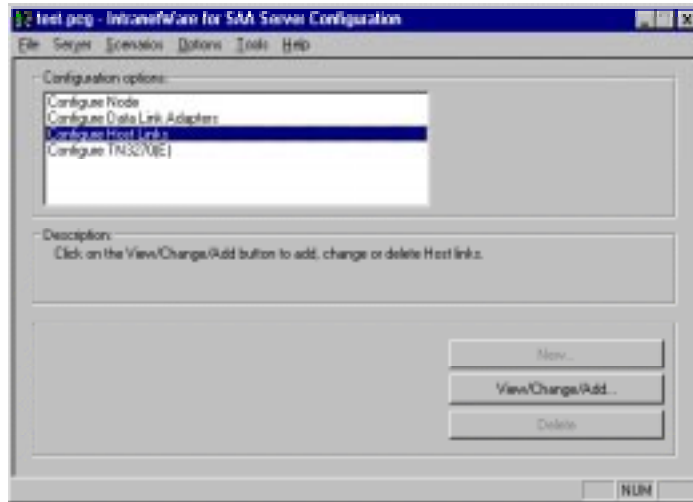

Figure 16-22. To Verify Host Links
3. Click **Cancel** to return to the main configuration menu. Double click “**Configure Host Links**” (Figure 16-22).